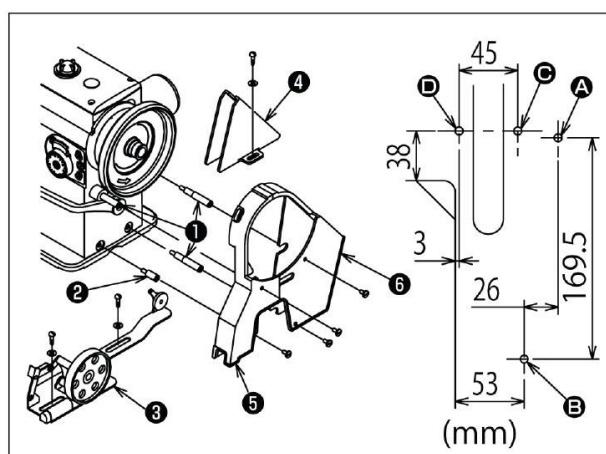

Fig.9
Bore wood-screw guide halls A,B,C,D in the table-top. Fit belt cover struts (1) and (2) in tapped holes in the machine arm. Adjust position of bobbin winder (3) and fix it in guide holes A and B with wood screws. Temporarily fix belt cover C (4) in guide holes C and D. Mount belt cover A (5) and belt cover B (6) to struts (1) and (2). Adjust the position of belt cover C (4) and fix it with the wood screw. See fig.9